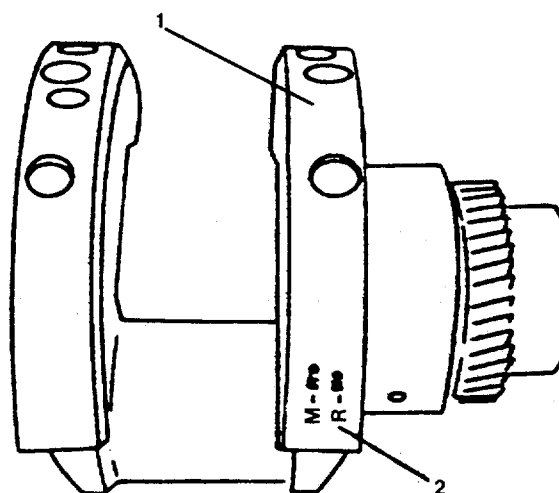
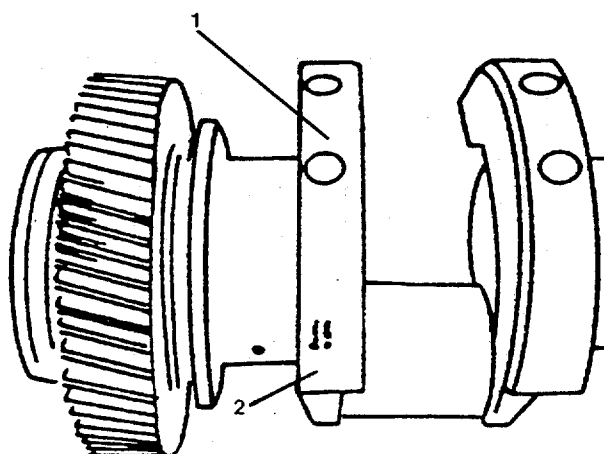

FIGURE 4-54. Markings on the Crankshaft for Undersize Main and Connecting Rod Journals.
FIGURE 4-55. Marking on the Crankshaft for Oversize Thrust Bearing.
- Reground crankshafts or those used with undersize rod and main bearings and/or oversized thrust rings should be marked so the correct bearing shells and thrust rings can be installed in proper position. Markings (2, FIG. 4-54) for rod and main bearings are on the front counterweight (1). Thrust ring size (2, FIG. 4-55), and location are on the rear counterweight.
- (1) Install the key in the shaft.
- (2) Heat the gear in a preheated oven at 400 °F (205°C) for a minimum of one hour.
- (3) Lubricate the flange with high pressure grease. Install the gear onto the shaft.
Before installation, check the bearing sizes (FIG. 4-54 and 4-55). Main bearings are two widths; the narrow bearings fit locations 1 and 9. The upper bearings contain an oil hole, the lower bearings do not. Both are marked on the back to indicate location.